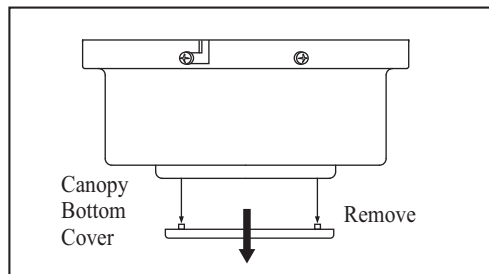

Figure 8
3. Remove the decorative canopy bottom cover from the canopy. (Figure 8)